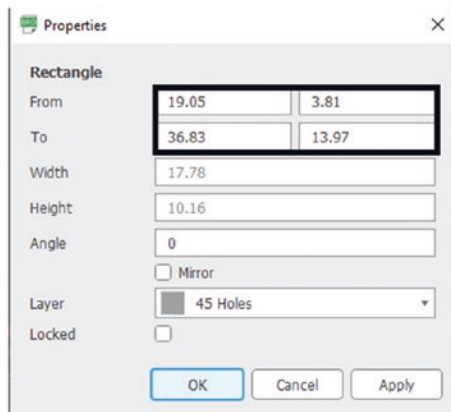

Figure 7-10. Dimensions of the bottom-left rectangle
8. Click “Info” and select the bottom-left rectangle. Enter in these values. See Figure 7-10.